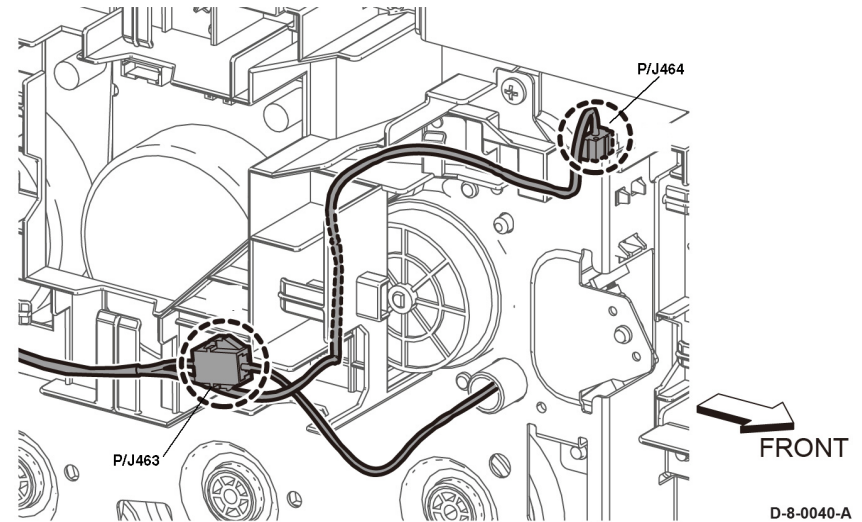

Figure 4 Disconnect two connectors
34. Remove the main L drive assembly, **Figure 4**:
- a. Remove seven screws (1), then remove the main L drive assembly (2) with the rear interlock harness guide attached (3).
- b. Release the hook (4) to remove the rear interlock harness guide (3) from the main L drive assembly (2).